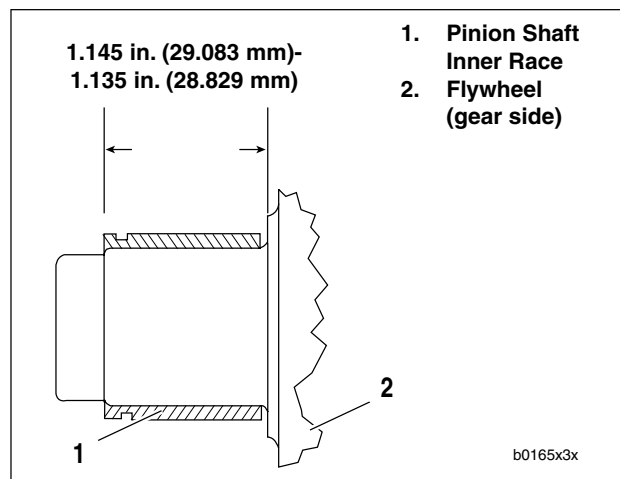
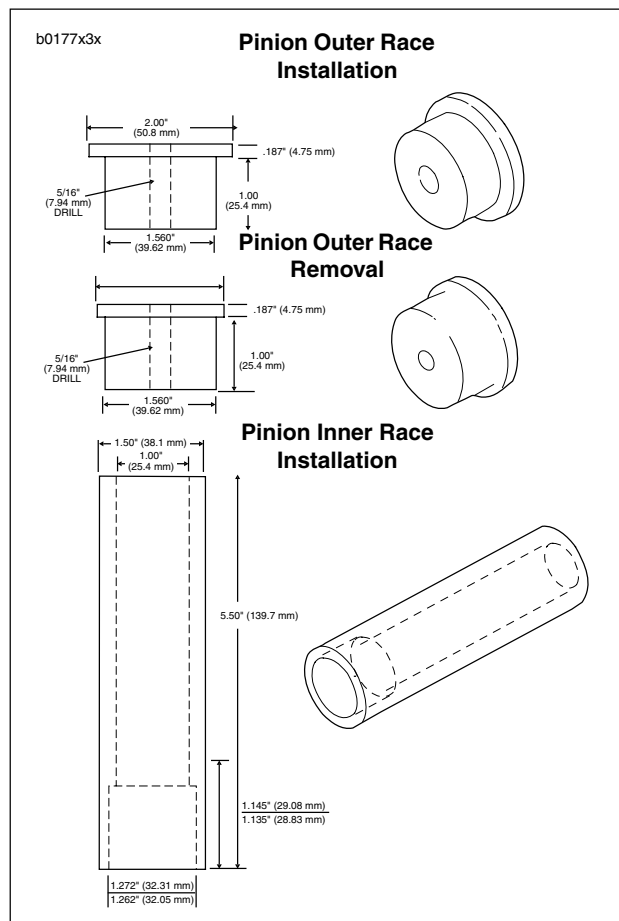

Figure 3-88. Inner Race Location
Figure 3-89. Pinion Shaft Bearing Tools
See Figure 3-88. Pinion bearings are identified as shown.
See Figure 3-89. Dimensions are shown for fabrication of tools used in pressing the outer race into or out of crankcase.
8. See Figure 3-88. Press **new** inner race on pinion shaft as shown. The **new** inner race must be ground by a competent machinist to OD dimension range for the finished lapped ID of the outer race. See Table 3-13. The finished inner race must meet these specifications. For necessary dimensions for constructing a press-on tool see Figure 3-89. When the tool bottoms against the flywheel, correct inner race location is automatically established.